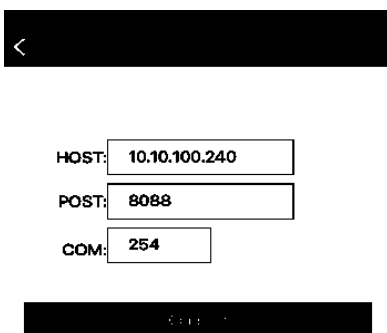

Fig. 13 Wi-Fi parameters
❶ If the Wi-Fi Connect is selected in the first step, it will skip to the interface of Fig. 13, and then click Connect.